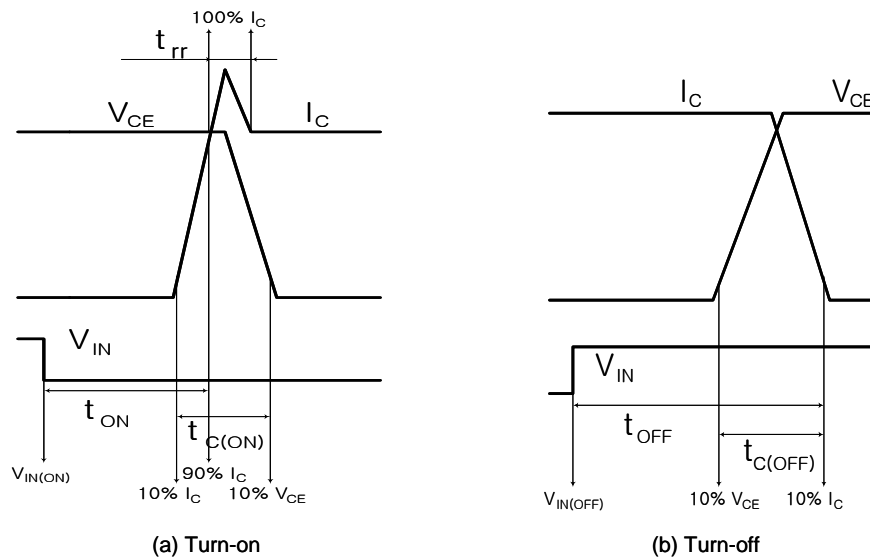

Figure 4. Switching Time Definition
4. t_{ON} and t_{OFF} include the propagation delay time of the internal drive IC. $t_{C(ON)}$ and $t_{C(OFF)}$ are the switching time of IGBT itself under the given gate driving condition internally. For the detailed information, please see Figure 4.